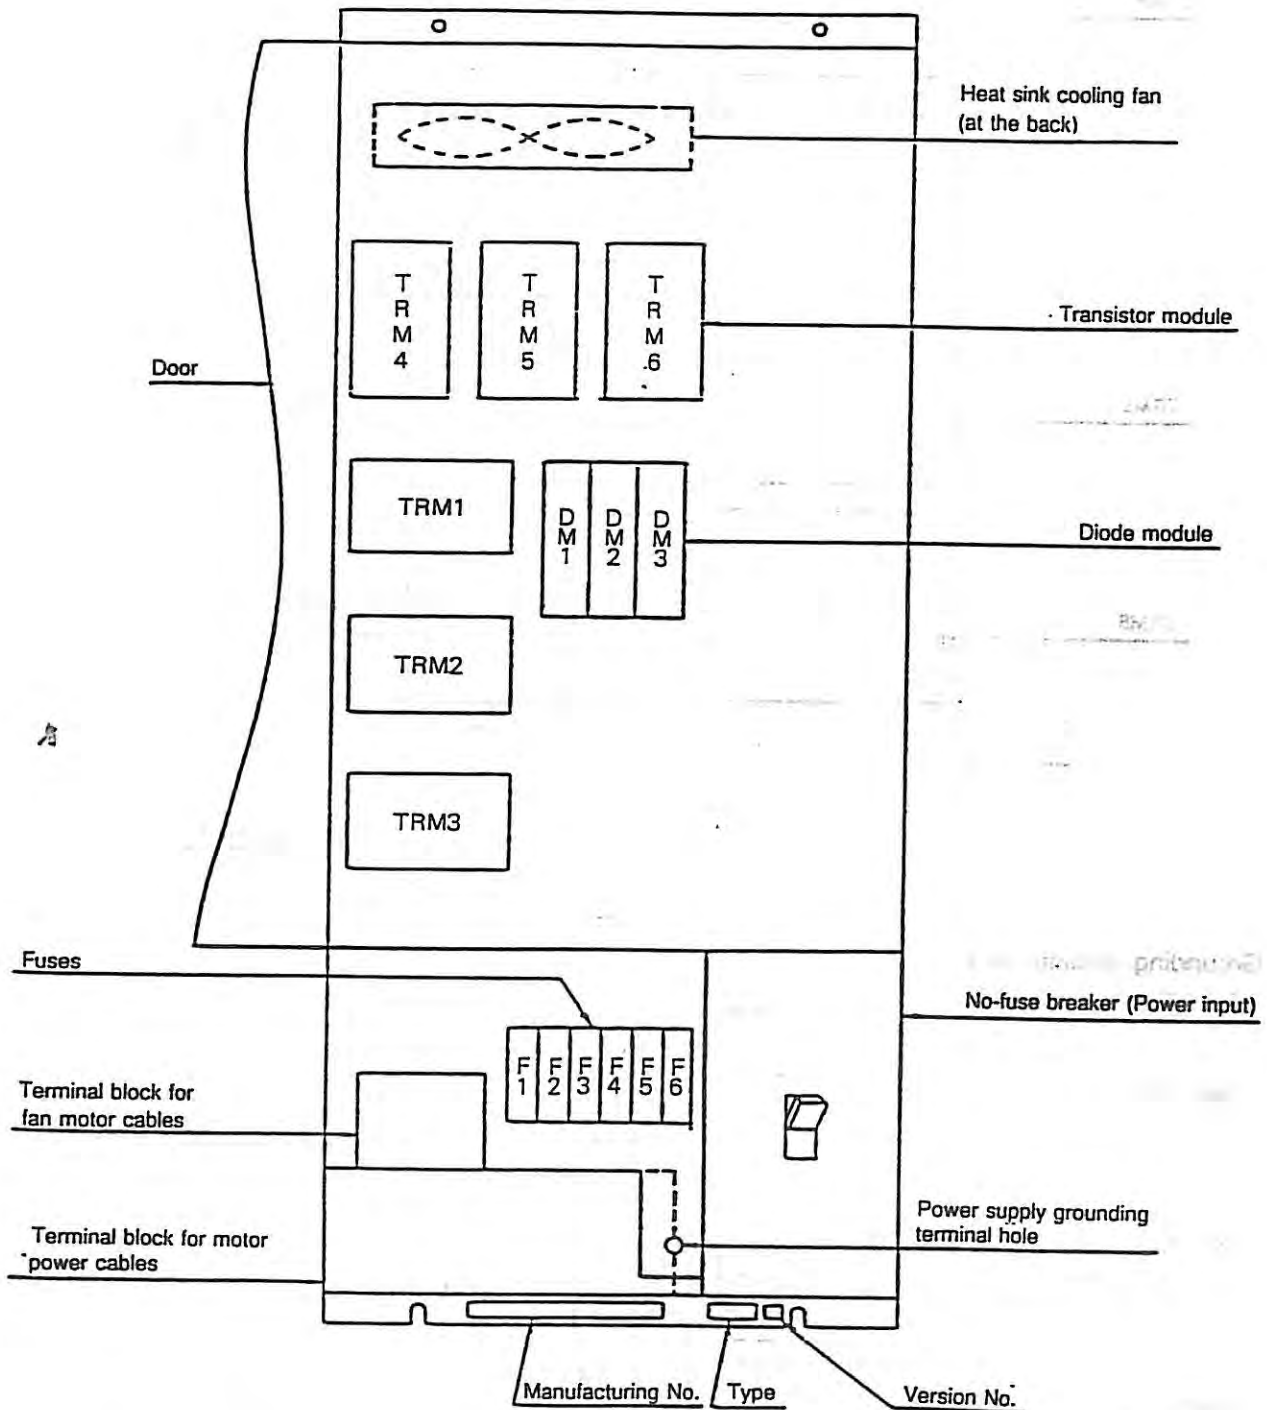

Fig. 4-5 Major Component Parts Arrangement for Power Supply Unit - D11A
- Fig. 4-5 Major Component Parts Arrangement for Power Supply Unit - D11A